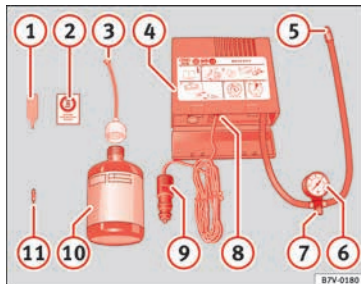

Fig. 64 Standard representation: Contents of the tyre mobility system.
- Unscrew the tyre valve cap and insert. Use the » **Fig. 64 1** tool to remove the insert. Place it on a clean surface.
- Shake the tyre sealant bottle vigorously » **Fig. 64 10**.
- Screw the inflator tube » **Fig. 64 3** into the sealant bottle. The bottle's seal will break automatically.
- Remove the lid from the filling tube » **Fig. 64 3** and screw the open end of the tube into the tyre valve.
- Place the insert back into the tyre valve using the tool » **Fig. 64 1**.
- Screw the compressor tyre inflator tube » **Fig. 64 5** into the tyre valve.
- Check that the air bleed screw is closed » **Fig. 64 7**.
- Insert the connector » **Fig. 64 9** into the vehicle's 12-volt socket »  page 174.
- Turn the air compressor on with the ON/OFF switch » **Fig. 64 8**.